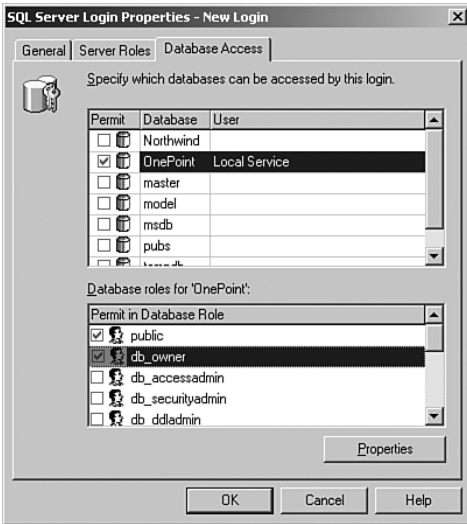

FIGURE 11.3 The Database Access tab for new login in SQL Server Enterprise Manager.
2. Select the Database Access tab to grant the Local Service account the db\_owner role for the OnePoint database. Figure 11.3 shows the roles specified for the database.